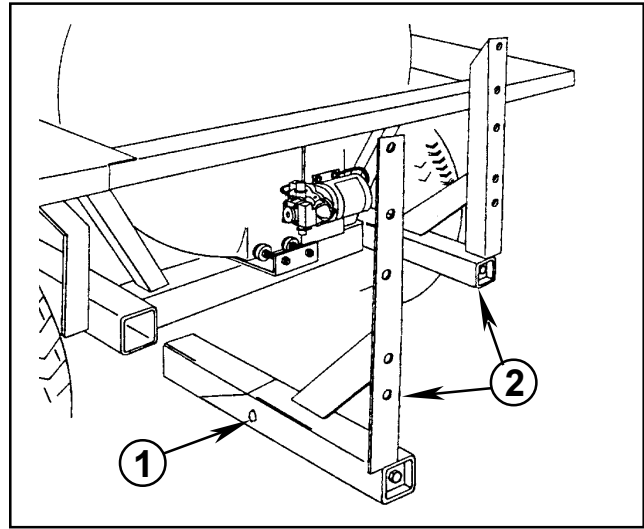

FIG. 3
1. Apply a heavy coating of grease to the tubes of the two Boom Mount Assemblies and insert them into the Vehicle Frame as shown in FIG 3.